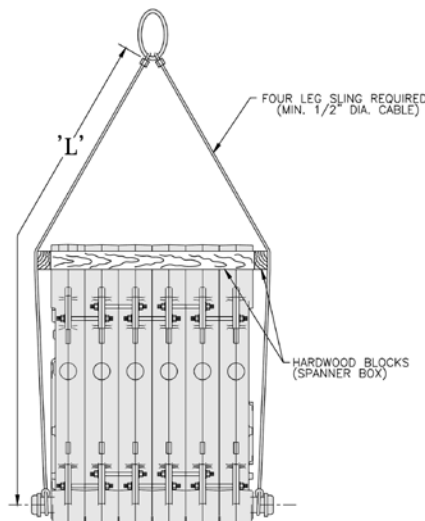

Figure 4: Lifting Instruction
A. FACTORY ASSEMBLED SECTIONS — If the boiler was ordered with factory assembled sections, the assembly should be set in the proper location as outlined in Section I. Lifting arrangement and weights are given in Figure 4.